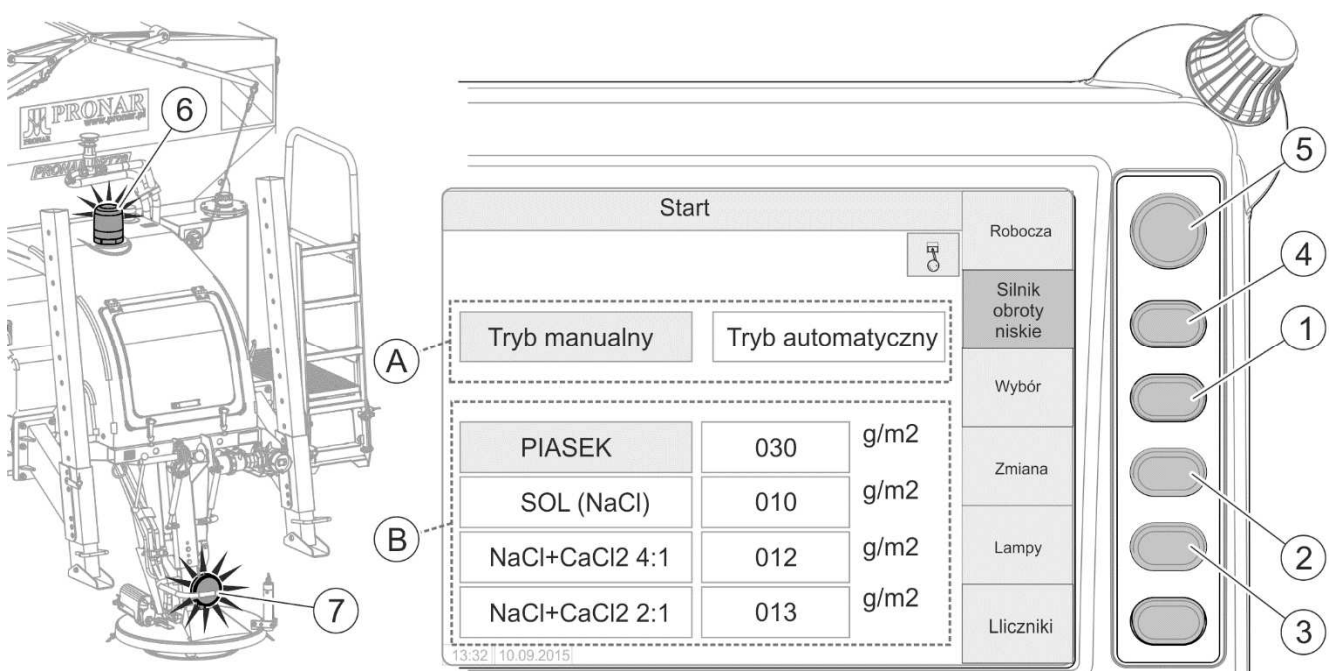

FIGURE 4.22 Activating individual functions on control panel home page
Mark mode selection field (A) on "START" home page of the control panel (FIGURE 4.22) by means of push-button (1) "Selection". In field (A), select "Manual mode" by means of push-button (2) "Change". Move to field (B) by means of push-button (1) „Selection” and select the type of material to be spread. In field (B), by means of „Change” push-button, select the type of material to be spread that is currently in the tank. By means of push-button (3), turn on warning lamp (6) at the rear of the machine and lamp (7) near the spreading disc. Wait for several minutes and switch the engine to high speed by means of push-button (4) and move to working page "Operation" by means of push-button (5).